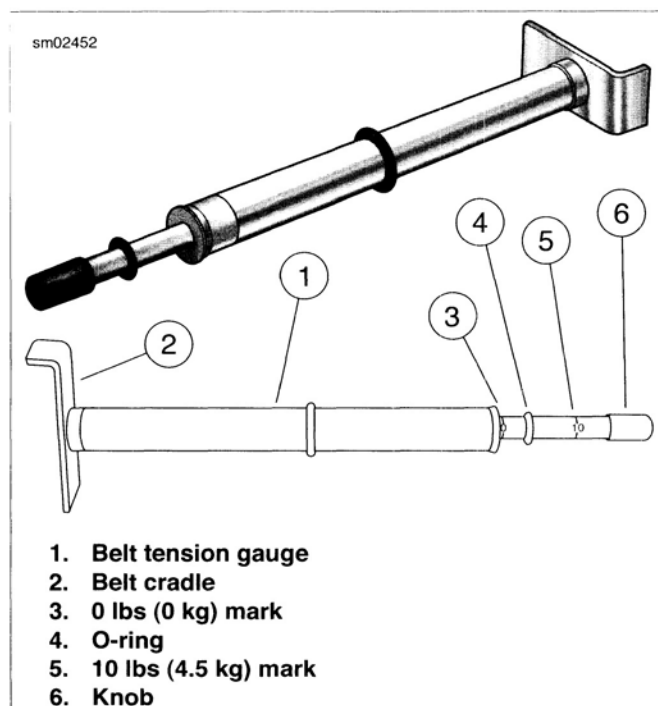

Figure 1-24. Belt Tension Gauge (Part No. HD-35381-B)
1. See Figure 1-24. Obtain BELT TENSION GAUGE (Part No. HD-35381-A).
- a. Slide o-ring (4) toward 0 lbs (0 kg) mark (3).